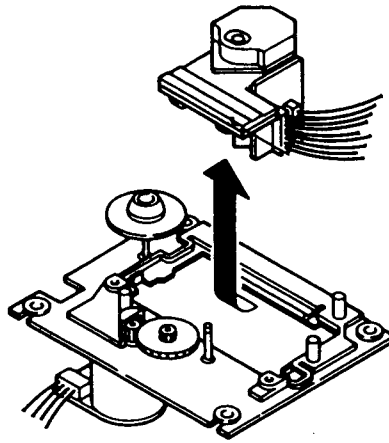

Fig. 10
5. Remove the pickup (See Fig. 10).